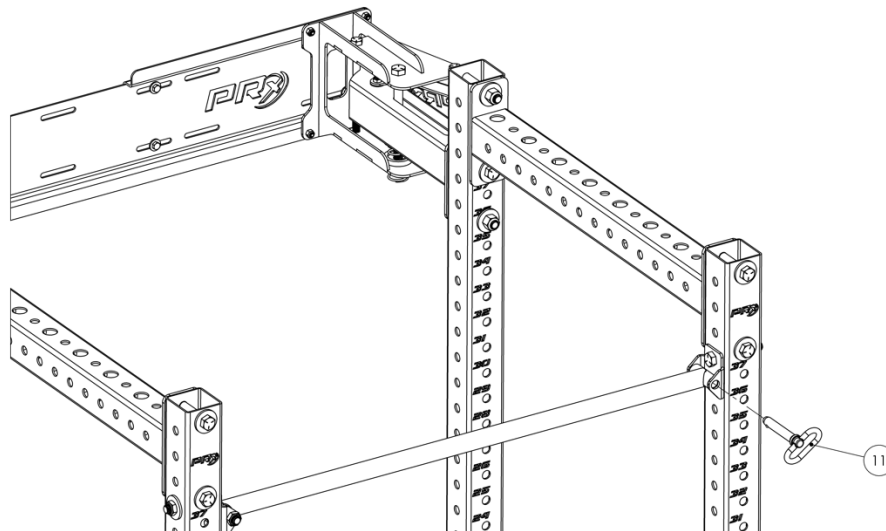

Figure 9: Using the pull-up bar
3. To use the pull-up bar, insert the Grip Pin (11) through the pin plate and pull-up bar. This pin functions as the locking mechanism for the rack and will need to be removed before folding (**Figure 9**).